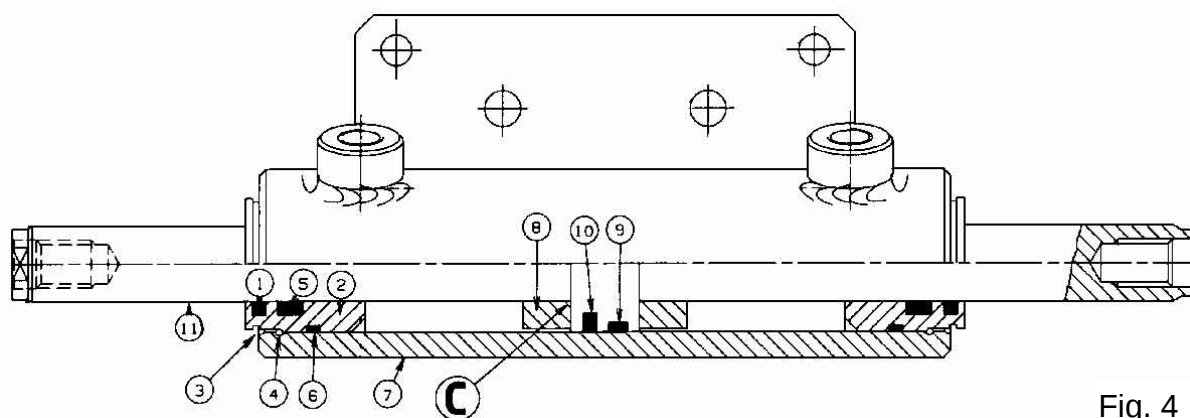

Fig. 4
Fig. 4 illustrates the constructional drawing of the steering cylinder.
Proceed in the following way if the internal cylinder seal and relative scraper (parts 9 and 10) of (fig. 4) need replacing:
- using a pair of pliers, remove the garter spring (part 4) of (fig. 4) from both the rh and lh sides of the cylinders by means of the two openings on the actual cylinder itself which have been made for this purpose;